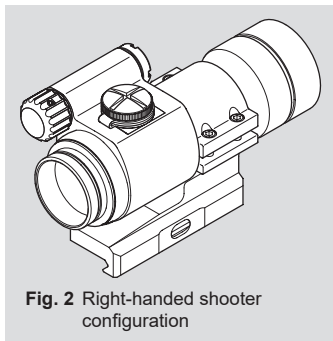
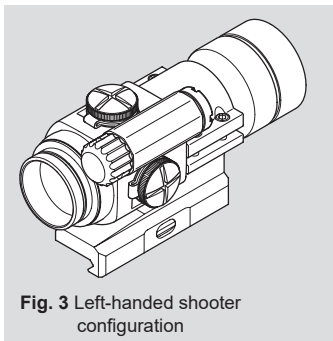

Fig. 2 Right-handed shooter configuration
Fig. 3 Left-handed shooter configuration
- a Remove battery cap (2) by turning it counterclockwise using the Aimpoint tool (11B).
- b Insert battery (3) with positive end (+) toward battery cap. See Fig 2.
- b Ensure that the sight is correctly positioned for right or left hand shooting. See (fig 2) and (fig. 3).
Installing the Rubber cover (10) requires right-handed shooter configuration (fig. 2)
The elevation Adjustment screw is located on top of the sight, while the windage screw is located on the right or left side, depending on how the sight has been mounted on the weapon. Aimpoint sights can be installed to support either right hand (fig. 2) or left hand (fig. 3) shooters.